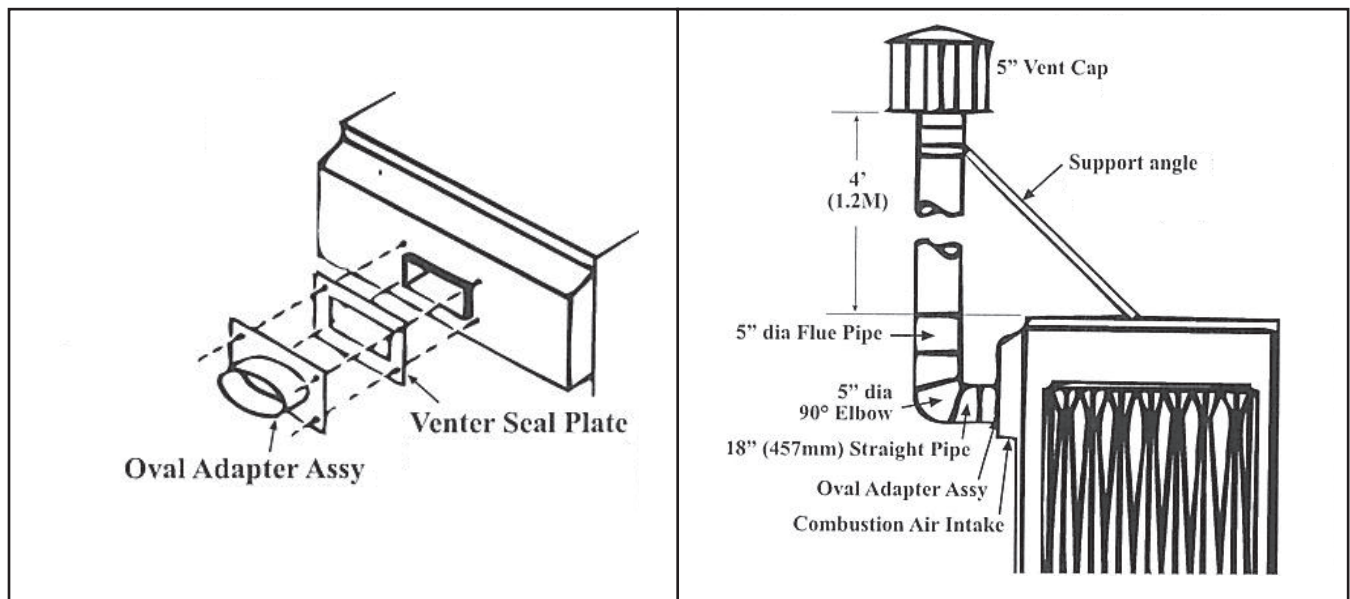

Figure 10. Optional Vertical Flue Discharge (Option CC3)
- Power-vented furnaces with the optional vertical flue discharge (option CC3) are certified with 4 feet of vertical pipe attached as shown in Figure 10. The distance is measured from the top of the unit to the bottom of the vent cap.
- The option CC3 package (PN 45021) includes the 5-inch vent cap (PN 110052), the adapter assembly (PN 103025), and the venter seal plate (PN 43446). The 5-inch vent piping and support angles (recommended 1/2-inch × 1/2-inch, 20 gauge) are field-supplied. Install the option package as follows (see Figure 10):
- c. Connect flue piping and support it with angles as shown in Figure 10.